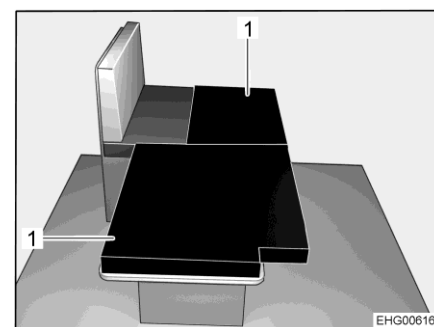

Fig. 46 After conversion
- Place the two additional cushions (Fig. 46,1) on the lowered table as shown in the image.